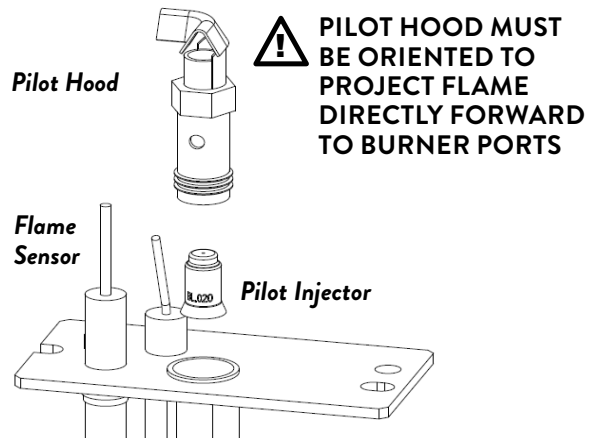

Figure 15 Replace pilot injector
6. CHANGE THE PILOT INJECTOR, Fig. 15